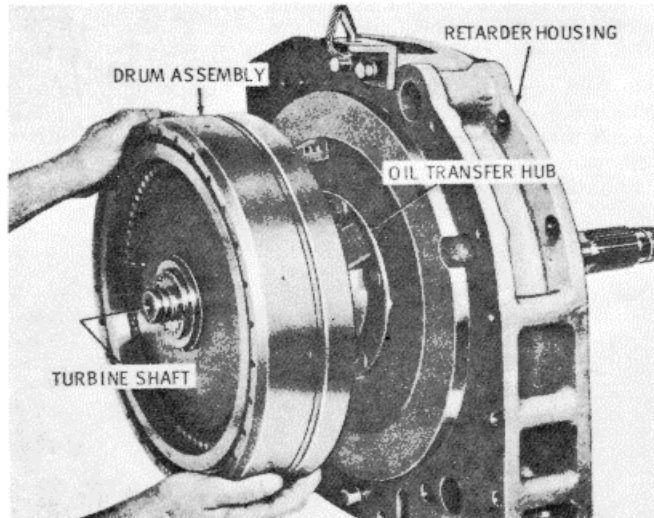

Figure 15-63. Removing Splitter-Direct Clutch and Drum Assembly
5. Attach one strand of the lifting sling to the retarder housing (Figure 15-63). Support the housing in a vertical position and remove the splitter-direct clutch and drum assembly from the turbine output shaft. Take the loose pitot tube from the oil collector ring.